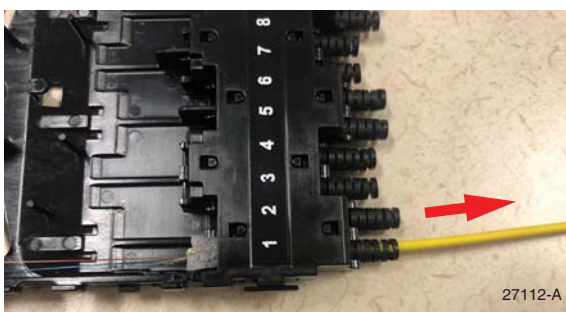

Figure 9. Foam Seated in Housing
9. Continue pulling gently on cable until foam is seated snugly in housing (Figure 9).